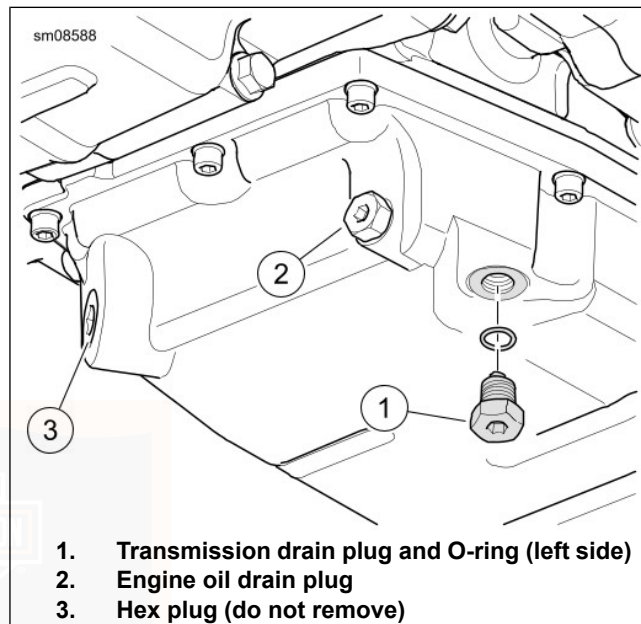

Figure 63. Transmission Drain
2. See Figure 63. Remove transmission drain plug. Drain transmission.